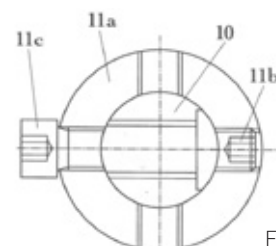

Figure 19
- 2.4. Position the locating screw (11c) in the spring support hole which is aligned with the non-countersunk side of the tie rod hole (See Fig. 19).